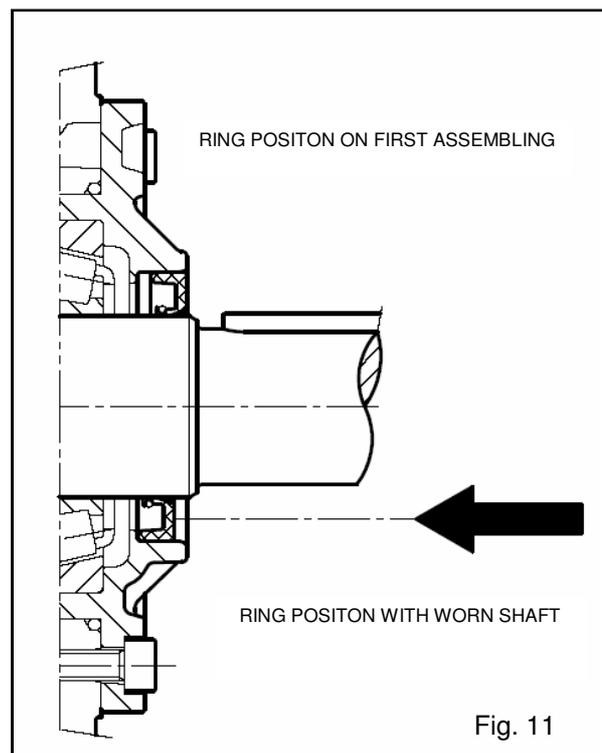

Fig. 11
- C) Before reassembling the side covers, check the seal lips for wear. If they need replacing, fit the new ring following the indications in fig. 11.
NB : Should the shaft show diameter wear where there is the seal lip, it is possible to avoid grinding by fitting the seal further as indicated in fig.11. Before installing the cover, (sight glass side) check that the shim rings have been placed. To help the covers fit on the crankcase, you can use 3 screws M6 x 40, and then finish screwing them with the original bolts M16X16.